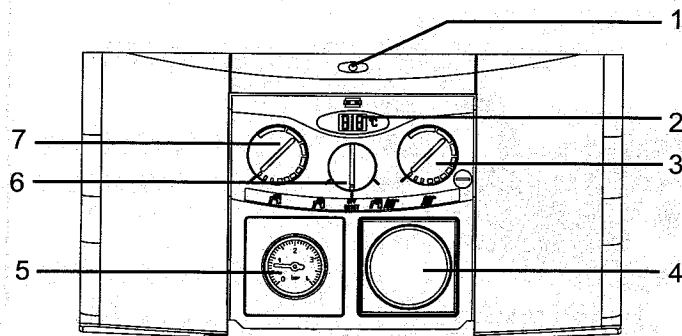

Fig. 1
**BEFORE ATTEMPTING TO LIGHT APPLIANCE PLEASE MAKE SURE THAT IT IS CHARGED UP WITH WATER WITH THE NEEDLE POINTING AT 1bar ON THE PRESSURE GAUGE (5 fig.1)**